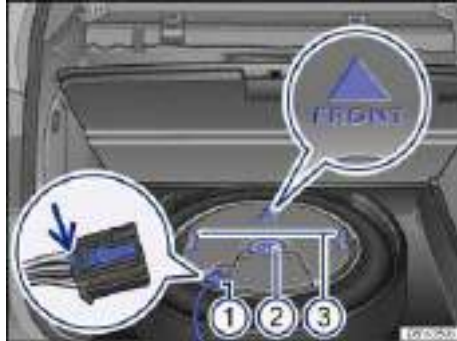

Fig. 195 Under the luggage compartment floor: Fender Premium Audio subwoofer.
1. Completely unscrew the fastening screw ⇒ fig. 195 (2) counterclockwise and remove with metal cap.
2. Grasp the subwoofer by the handles (3) and partially remove it from the recess.
3. Disconnect the electrical connector (1) from the subwoofer by pressing the release tab in the direction of the arrow (close-up), then pulling the connector out of the socket.